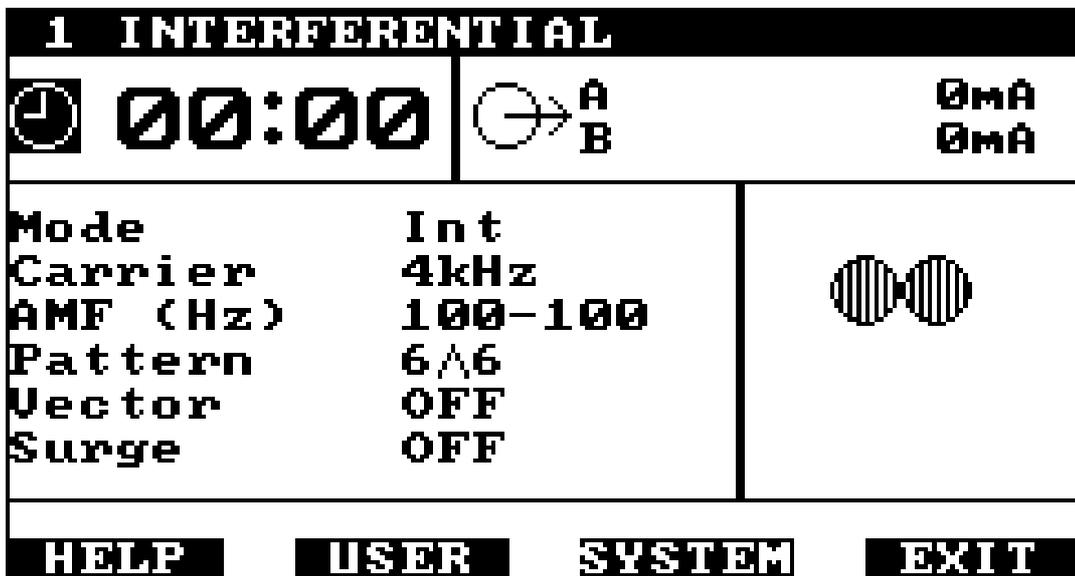
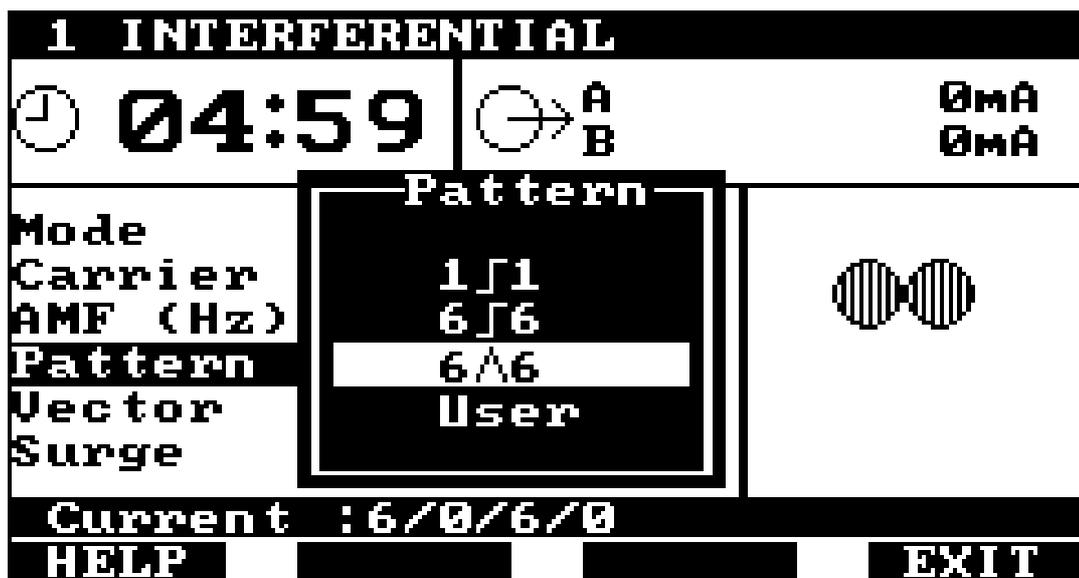

Figure 6 - Interferential Set-Up
Figure 13 - Setting the Pattern
3. The Medi-Link will run the Interferential program and the display will change to show the Interferential Set-Up (figure 6). All the current settings of the module are displayed and in the box on the right of the display is a small graphic representation of the current waveform.
Alternatively, if the ENTER key is pressed when the label Carrier is highlighted, a sub-window will appear (figure 11). The available options will be displayed in the sub-window with the current setting highlighted. Use the up and down arrow keys to highlight the required carrier frequency and confirm the selection by pressing the ENTER key. The system will return to the main Interferential mode set-up screen (figure 6) and display the new carrier frequency. If F4 is pressed while the Carrier sub-window is displayed, the system will return to the set-up screen without changing the carrier frequency.
Alternatively, if the ENTER key is pressed when the label Pattern is highlighted, a sub-window will appear (figure 13). The available options will be displayed in the sub-window with the current setting highlighted. Also the times for base-to-peak, peak hold, peak-to-base and base hold times in seconds for the current selection are shown in a highlighted bar just above the function key labels. Use the up and down arrow keys to highlight the required pattern and confirm the selection by pressing the ENTER key. If one of the standard patterns has been selected, the system will return to the main Interferential mode set-up screen (figure 6) and display the new pattern.
If F4 is pressed while the User sub-window is displayed, the system will return to the pattern sub-window display (figure 13).
Alternatively, if the ENTER key is pressed when the label Vector is highlighted, a sub-window will appear (figure 15). The available options will be displayed in the sub-window with the current setting highlighted. Use the up and down arrow keys to highlight the required vector setting and confirm the selection by pressing the ENTER key. If one of the three standard options has been selected, the system will return to the main Interferential mode set-up screen (figure 6) and display the new selection.
Alternatively, if the ENTER key is pressed when the label Surge is highlighted, a sub-window will appear (figure 17). The available options will be displayed in the sub-window with the current setting highlighted. Also the times for the rise, hold, fall and rest times in seconds for the current selection are shown in a highlighted bar just above the function key labels. Use the up and down arrow keys to highlight the required surge and confirm the selection by pressing the ENTER key. If one of the four standard options has been selected, the system will return to the main Interferential mode set-up screen (figure 6) and display the new selection.
If F4 is pressed while the User sub-window is displayed, the system will return to the surge sub-window display (figure 13).